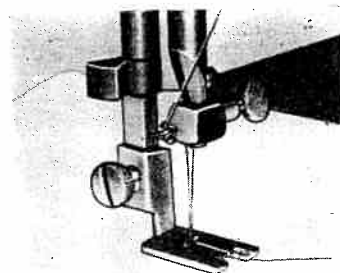
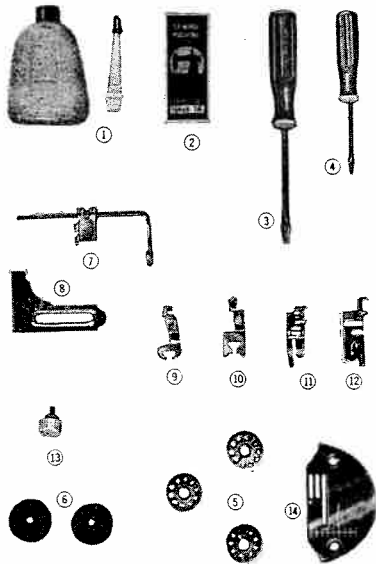

Fig. 36
Fig. 43
1. Replace presser foot with buttonhole foot (Item 10 Fig. 43) which is grooved deeply underneath to prevent piling up of thread. (See Fig. 36).
### ACCESSORIES (Fig. 43)